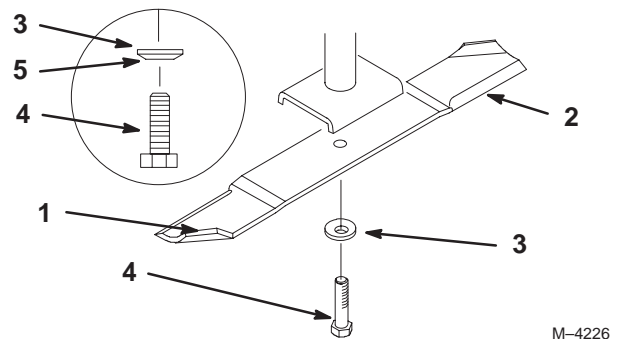
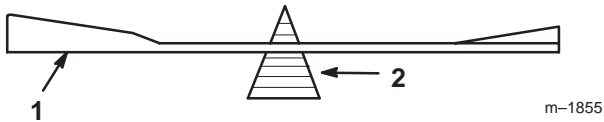

Figure 35
Figure 37
Hold the blade end using a rag or thickly-padded glove. Remove the blade bolt, spring disk, and blade from the spindle shaft (Fig. 35).
2. Check the balance of the blade by putting it on a blade balancer (Fig. 37). If the blade stays in a horizontal position, the blade is balanced and can be used. If the blade is not balanced, file some metal off of the end of the sail area only (Fig. 35). Repeat this procedure until the blade is balanced.
1. Install the blade onto the spindle shaft (Fig. 35).
2. Install the spring disk and blade bolt. The spring disk cone must be installed toward the bolt head (Fig. 35).